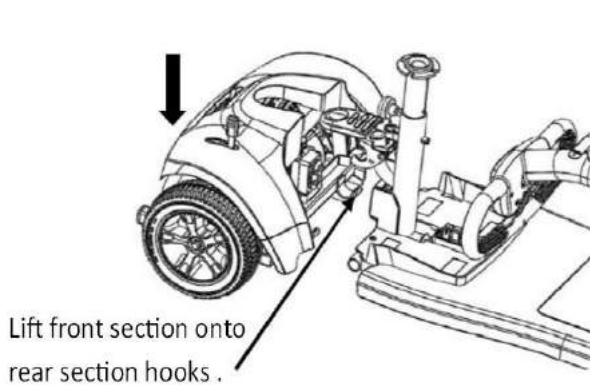

Fig 6.3.1
- Connect the front and rear sections by aligning them and gently lifting the front section onto the two hooks of the rear section. (See Fig 6.3.1) Make sure the rear section is tipping back to allow the front section to lower into the correct position.